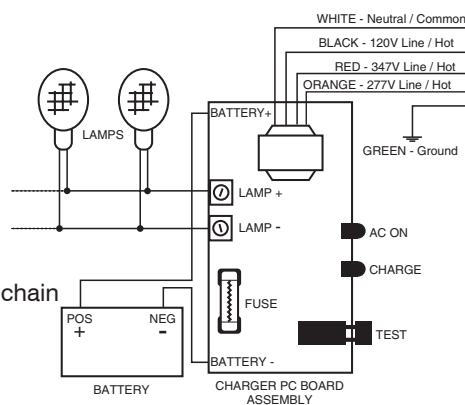

Figure 4
6. Uncoil the wire lead(s) from the Positive circuit board terminal (+) and connect to the positive terminal connector on the battery (figure 4).
10. Plug (2) lamp sockets into lamp (figure 4).
11. Plug male to female inline connectors (figure 4).